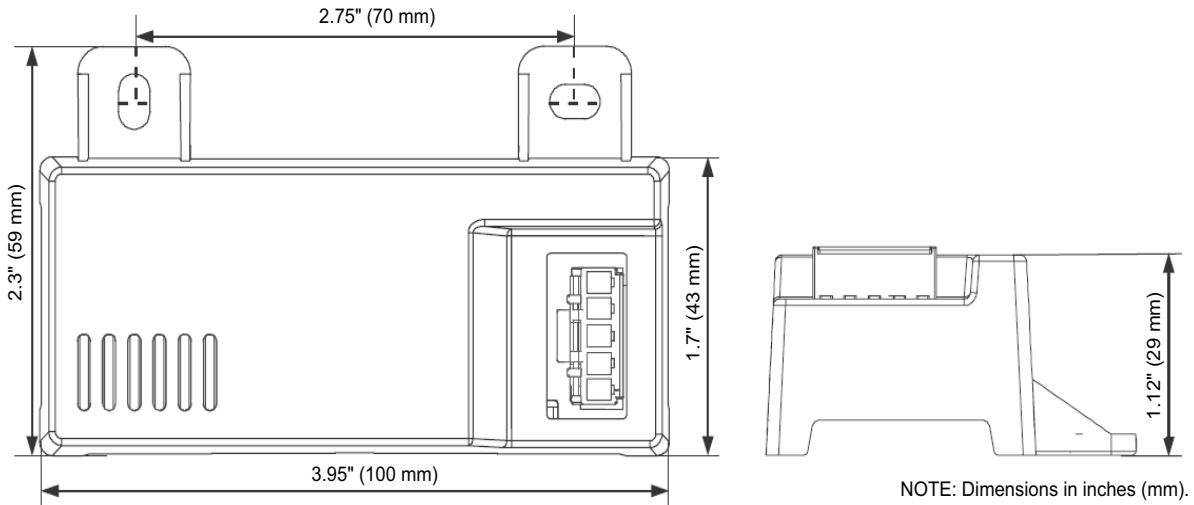
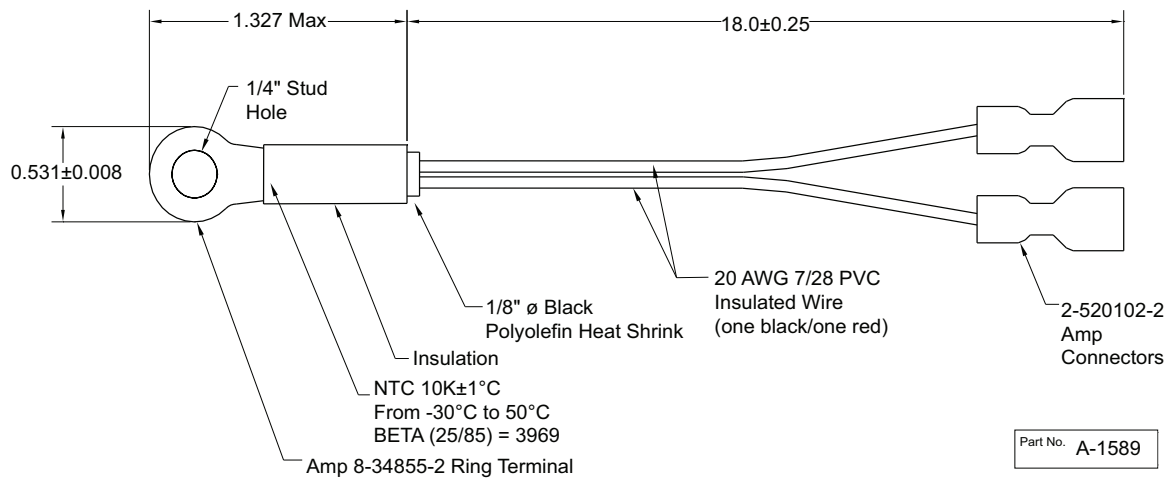
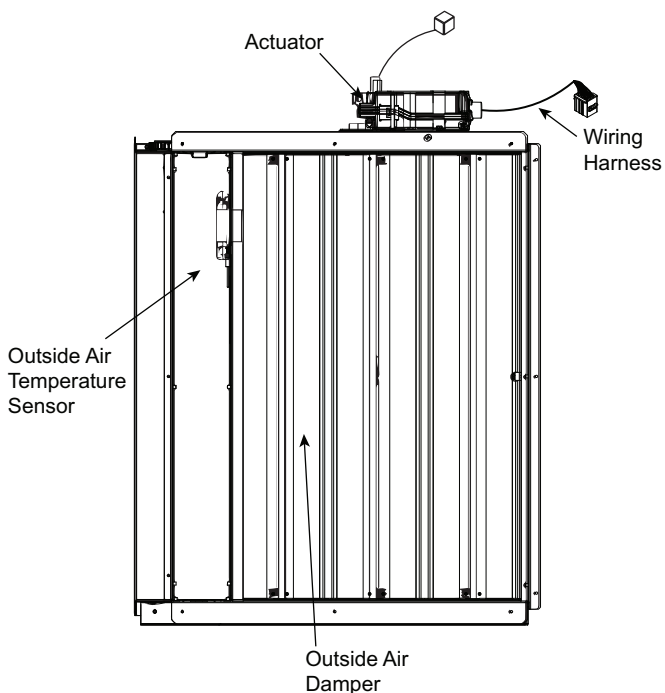

Fig. 77 – HH57LW001 Dimensional, Connection and Switching Information
Fig. 78 – HH79NZ039 Dry Bulb and Mixed Air Sensor Wiring
Fig. 79 – EconomizerONE Component Locations (CRECOMZR108A00 Shown)
When using the HH57LW001 enthalpy sensor (see Fig. 77) for outside air changeover, the existing HH79NZ039 dry bulb sensor (see Fig. 78) must be removed. The enthalpy sensor will be mounted in the same location as the dry bulb sensor (see Fig. 79). When the enthalpy sensor's OA (Outside Air) temperature, enthalpy, and dew point are below their respective setpoints, the outside air can be used for free cooling. When any of these are above the setpoint, free cooling will not be available. Enthalpy setpoints are configurable and create an enthalpy boundary according to the user's input. For additional details, see Fig. 80-81 and Table 25.
The optional enthalpy control sensor (P/N: HH57LW001) communicates with the POL224 economizer controller using the 5-wire harness, 48TC005213. The HH57LW001 sensor can be used as a single outside air enthalpy, a differential return enthalpy, or a differential return temperature sensor. Refer to the base unit control wiring diagrams found earlier in this book to wire the HH57LW001 enthalpy sensor for each option. Use Fig. 77 and Table 27 on page 56 to locate the wiring terminals for each enthalpy control sensor.
Economizers are shipped standard with an HH79NZ039 outside air dry bulb sensor (see Fig. 78). System default setting (high temp limit) is 63°F (17°C) and has a range of 48°F to 80°F (9°C to 27°C). Sensor is factory installed on economizer.
If installing the optional HH57LW001 enthalpy sensor, the HH79NZ039 dry bulb outside air sensor must first be removed. Wire sensor to harness 48TC005213 and the (5) wires from the harness to the EconomizerONE harness in the return air chamber. Harness 48TC005213 has a 5-pin plug that connects directly to the HH57LW001 enthalpy sensor. Refer to the base unit control wiring diagrams earlier in this book for wiring connections. Refer to Fig. 77 and Table 27.